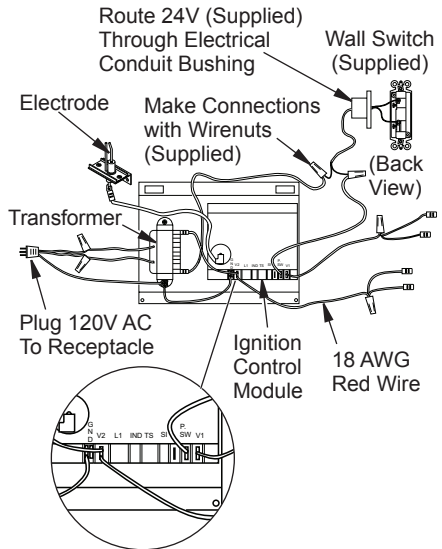
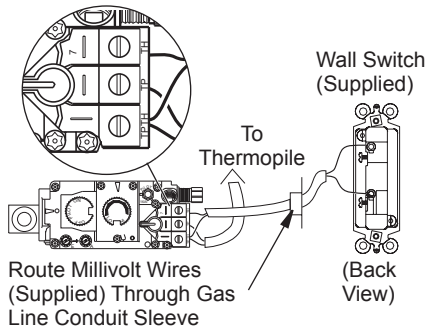

Figure 31 - Wall Switch Wiring Diagram, Electronic Units
Figure 32 - Wall Switch Wiring Diagram, Millivolt Units
The electronic version uses a 24 VAC current supplied from a transformer mounted on the ignition module and is prewired for easy connection to a wall switch (see Figure 31). The millivolt version uses a self generated millivolt current that allows you to activate the gas control valve directly without the use of normal household electricity (see Figure 32). Both versions are supplied with a wall switch kit for ready connection and mounting.
2. Disconnect wall switch wires from terminals marked TH and TPTH (see Figure 32, page 18).